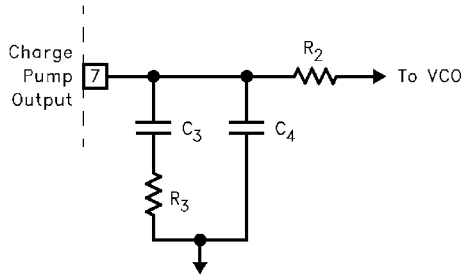

FIGURE 12. TYPICAL LOOP FILTER
6. Notice  $R_2$  has little effect on the loop filter design.  $R_2$  should be large, around 100k, and can be adjusted to compensate for any static phase error  $T_0$  at lock, but if made too large, will slow loop response. If  $R_2$  is made smaller,  $T_0$  (see "Timing Diagrams" on page 5) increases, and if  $R_2$  increases,  $T_0$  decreases. For LDET to be low at lock,  $|T_0| < 50\text{ns}$ .  $C_4$  is used mainly to attenuate high frequency noise from the charge pump. The effect these components have on-time to lock is illustrated in Figure 12.